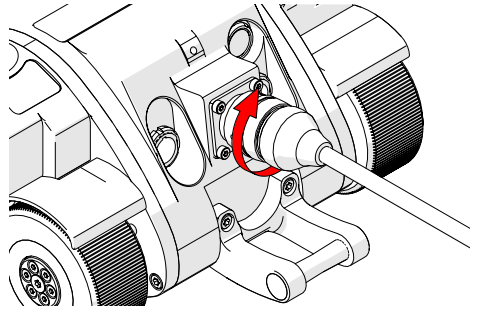

Fig. 61 - Press and rotate to seat pins of umbilical
2. Rotate the umbilical until the umbilical becomes seated in the pins of the umbilical connection (Fig. 61).